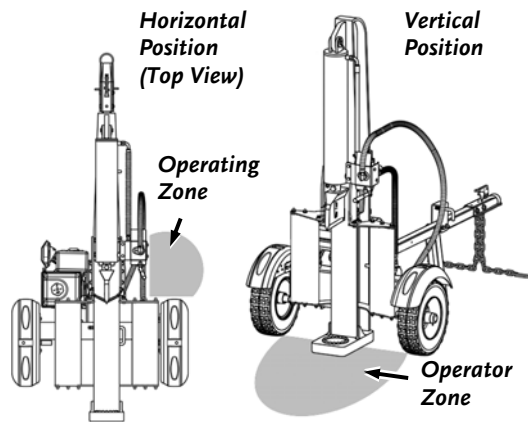

Figure 35
- When operating the Log Splitter, make sure you are standing in the safe operating area (OPERATOR ZONE) as shown in **Figure 35**. You must stay in the safe operating area at all times when the wedge is in motion (whether extending or retracting). Never place any part of your body into a position that causes an unsafe operating condition.